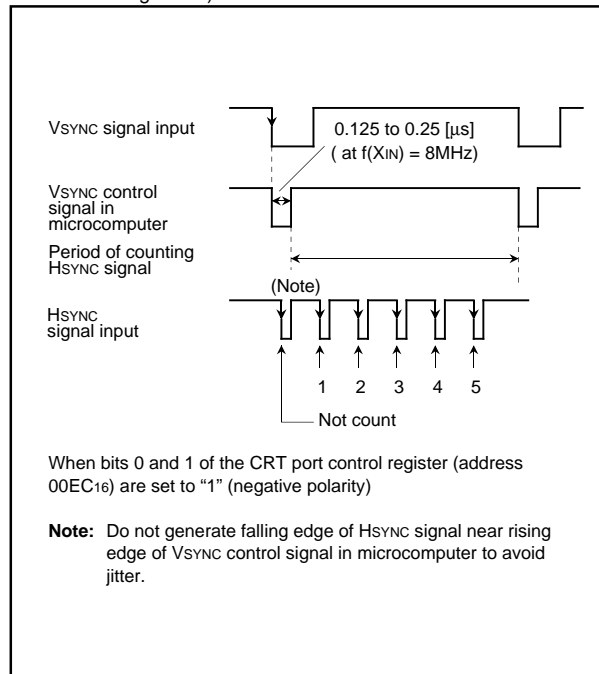

Fig. 39. Supplement explanation for display position
**Note:** When bits 0 and 1 of the CRT port control register (address 00EC16) are set to "1" (negative polarity), the vertical position is determined by counting falling edge of HSYNC signal after rising edge of VSYNC control signal in the microcomputer (refer to Figure 39).